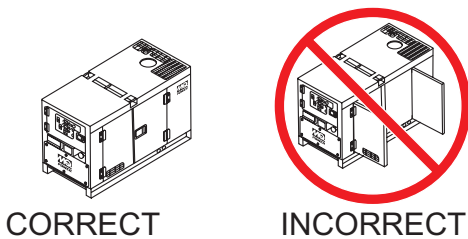

Figure 41. Engine Enclosure Doors
5. Close all engine enclosure doors (Figure 41).